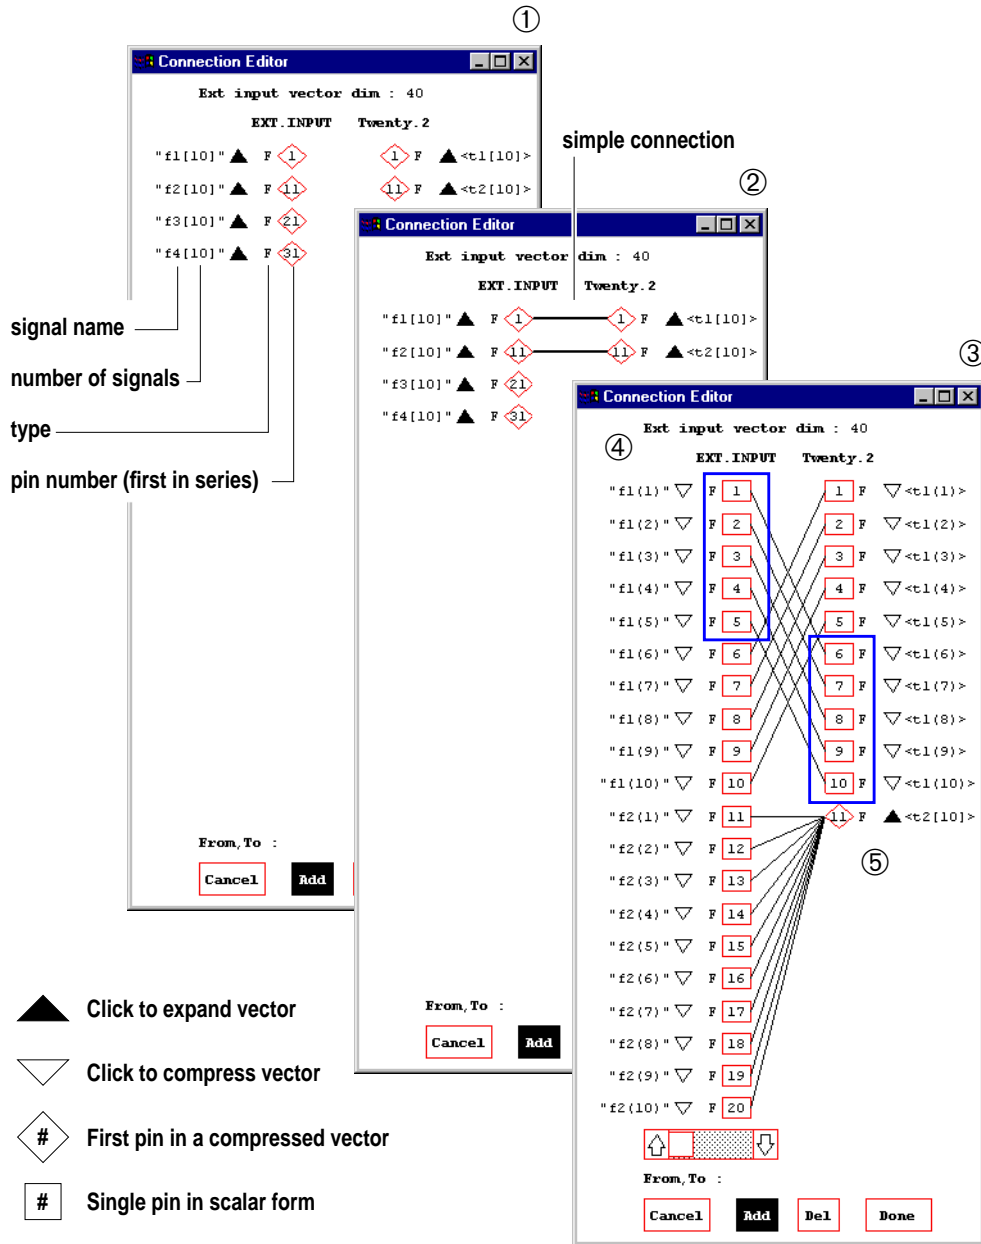

FIGURE 4-10 Connecting External Inputs to Forty
- a. The initial view, ①, in Figure 4-10 on page 4-38, demonstrates that vectored labels are grouped together by default. To expand a vector (to scalar view), click on a filled triangle. To compress a vector, click on a hollow triangle associated with any label in the vector.
- b. Double-click on the **Add** button to create a simple connection from the external inputs to Twenty (see ②). To expand the f1 source vector, click on the filled triangle beside f1[10]); do the same for the t1 destination. Note, a scroll bar appears above the **Cancel** button.
- c. With the vector expanded we can create single connections or multiple connections. You can create view ③ as follows. With the **Add** button selected, lasso (drag a selection box) the first 5 pins from f1 (④), then select the last five pins of t1 (⑤). Connect f1(6:10) to t1(1:15) in the same manner.